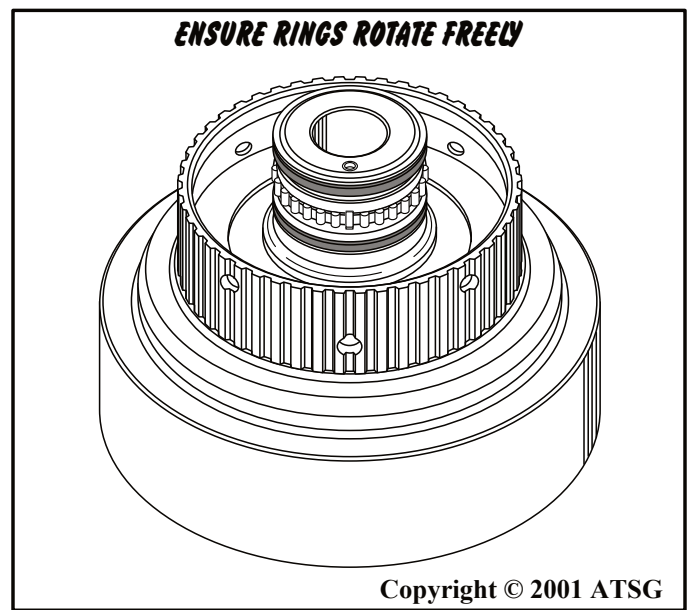

Figure 84
6. Ensure that the sealing rings are seated and rotate freely in grooves (See Figure 84).